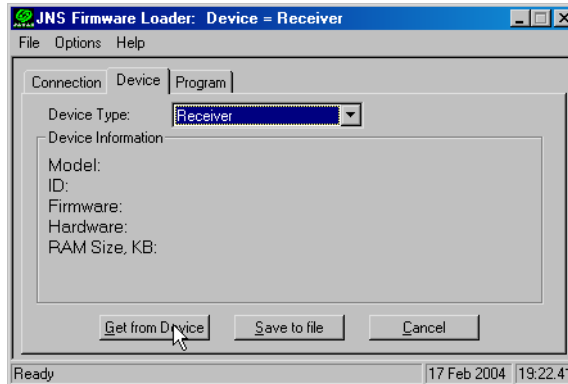

Figure 4-15. Set Device Type
1. In FLoader select the **Device** tab and set the Device Type as **Receiver** (Figure 4-15).
2. Click **Get from Device** for device information (Figure 4-15).